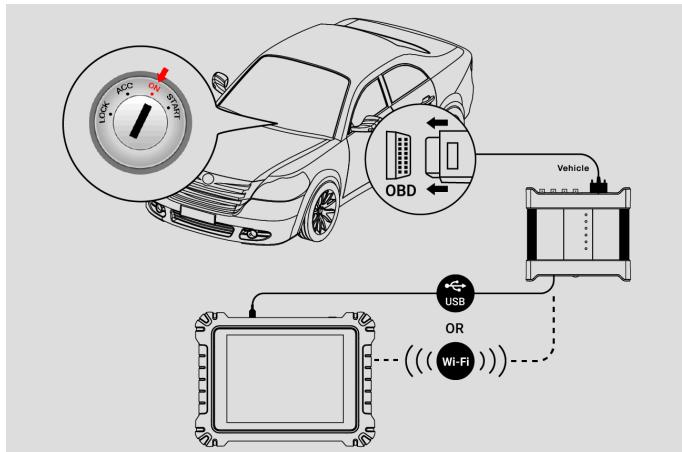

Figure 8-1 Sample Connection Diagram
1. Please refer to *Figure 8-1 Sample Connection Diagram* to complete the connection. Place the ignition in the key on position.